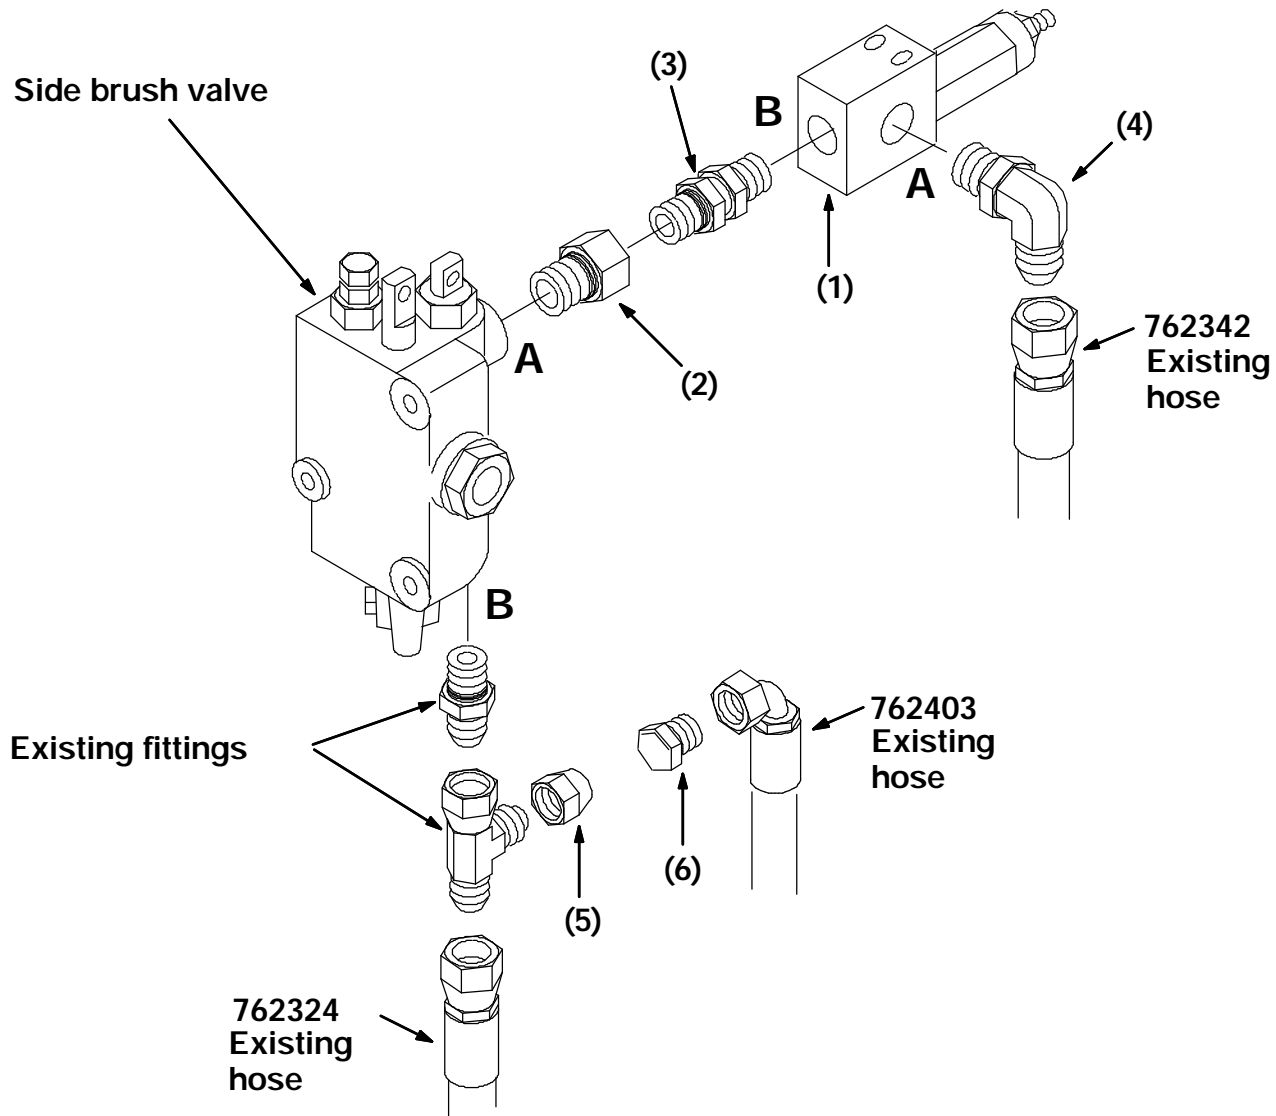

FIG. 2 - Side Brush Valve Assembly
1. Disconnect hose #762403 (the hose with the 90° end) from port "B" on the side brush valve (#762042 RH and #762037 LH). (Refer to Fig. 2)
2. Install cap (5) on the tee fitting were the hose was removed in step 1. (Refer to Fig. 2)
3. Install plug (6) in the end of the hose that was removed in step 1. Tie this hose to the hose next to it using a wire tie or electrical tape. (Refer to Fig. 2)
4. Disconnect hose #762342 from the fitting in the "A" port of the side brush valve. (Refer to Fig. 2)
5. Remove the 90° fitting from the "A" port of the side brush valve. Discard fitting. (Refer to Fig. 2)
6. Install straight fitting (2) in the "A" port of the side brush valve. (Refer to Fig. 2)
7. Install union fitting (3) in the straight fitting that was installed in step 6. (Refer to Fig. 2)
8. Install port "B" of the new relief valve (1) on the union fitting installed in step 7. (Refer to Fig. 2)
9. Install 90° fitting ~~a~~ in port "A" of the new relief valve (1). Point the fitting down.
(Refer to Fig. 2)
10. Connect hose # 762342, that was disconnected in step 4, to the 90° fitting ~~a~~ that was installed in step 9. (Refer to Fig. 2)